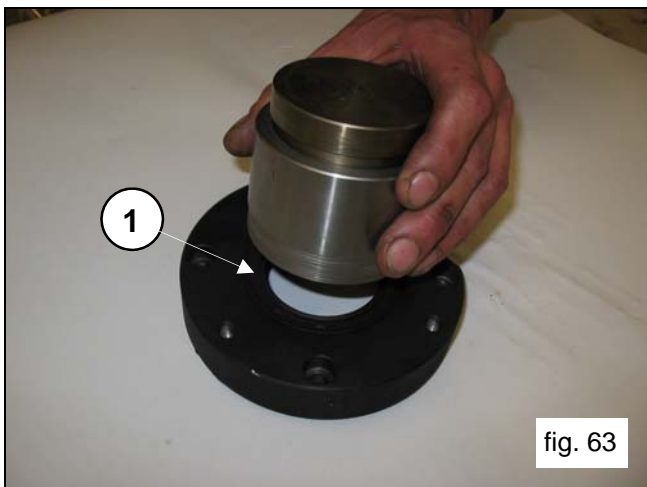

fig. 63
Insert the radial seal ring into the PTO bearing cover using the device (order code 27539500) (pos. ①, fig.63).